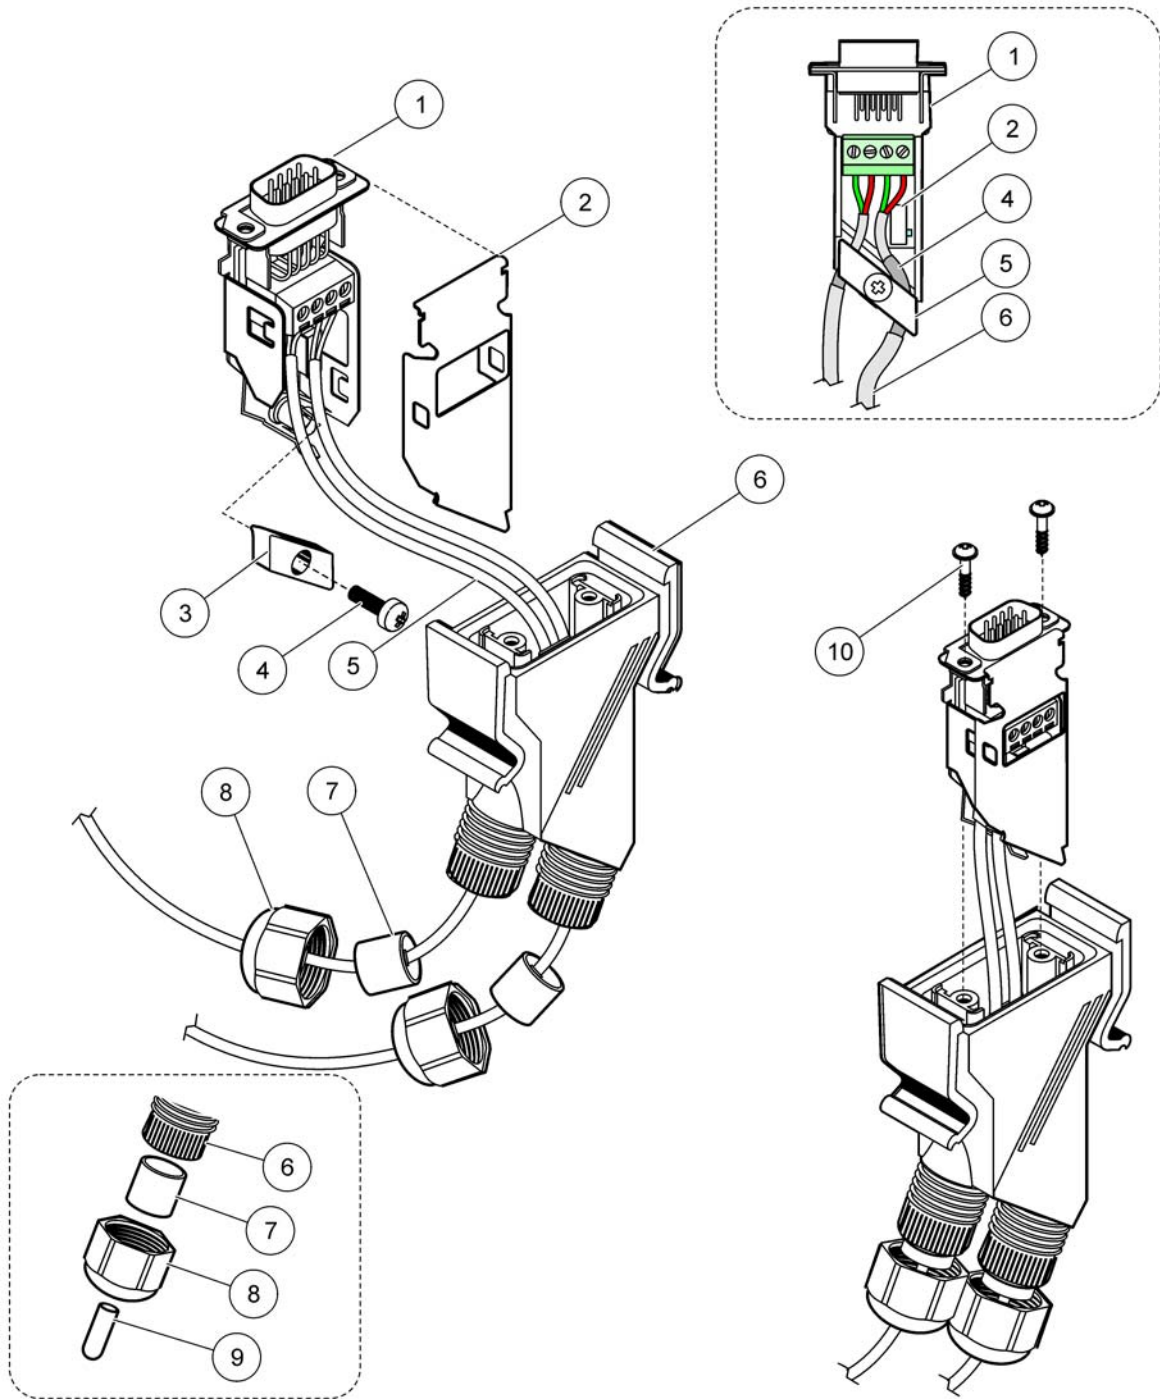

Figure 32 Connecting the network connector to the sc1000 network terminating resistor
2. Feed the cable through the union nut, rubber seal, and connector housing (Figure 32).
**Note:** When using the connector with the last module on the network segment, one union nut remains unused. Seal the union nut with the plug supplied. Refer to Figure 32.
2 Use this plug if the cord grip is not used, refer to inset in Figure 32.